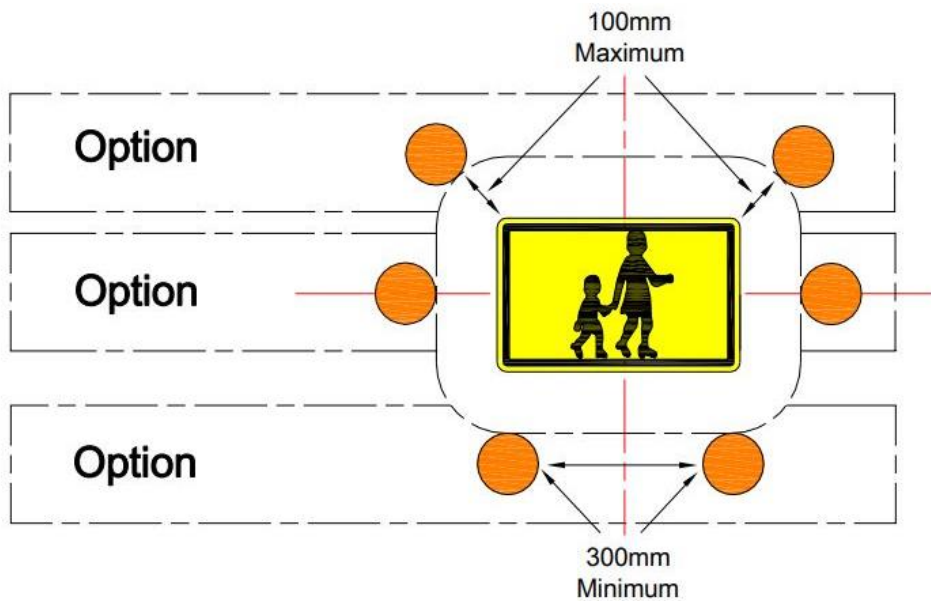
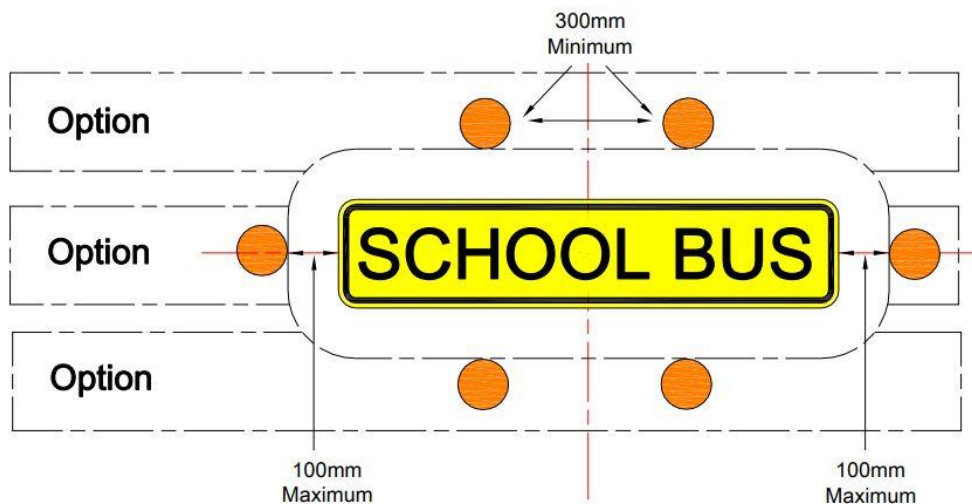

Figure 7 - Warning lights positioning ("Image of two children" sign)
Figure 8 - Warning lights positioning ("School bus" sign)
- The warning lights shall be fitted (*Figure 7, Figure 8*);